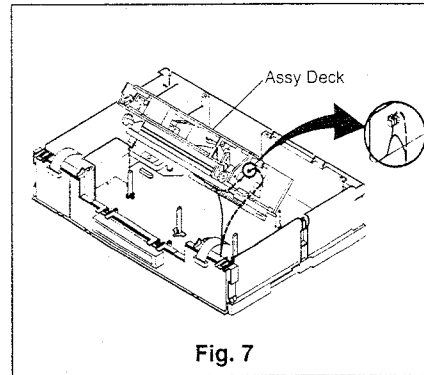

Fig. 7
- 4 Raise the front side of the Assy Deck upward as shown in Fig. 7 and support it with a screw driver, etc. Servicing on the components side of the PCB is now possible.